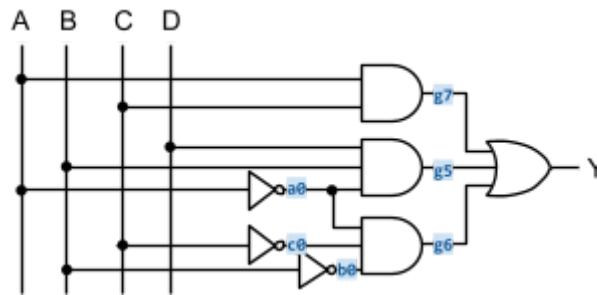

Figure 3. Circuit implemented by the module `circuit_p1.sv`
3. Look at `circuit_p1.sv`. This implements the circuit shown in Figure 3 and uses a delay statement (#1) to assign each gate a 1 ns delay. The implementation is incomplete. Fix the module implementation to fully describe the circuit shown in Figure 3.